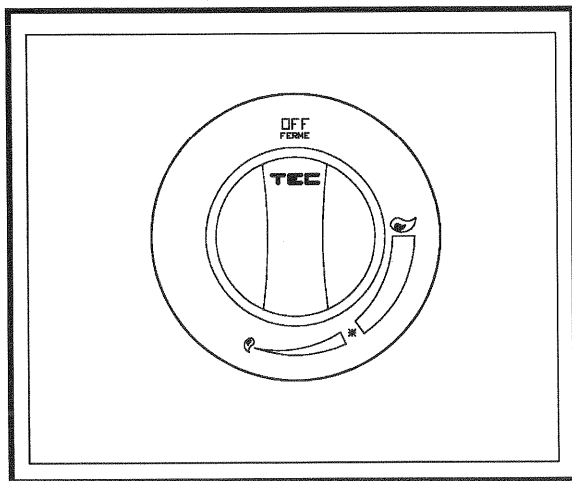

Figure 8 Burner Control Knob
3. Push the Spark Igniter Button. (See Figure 8, page 10)